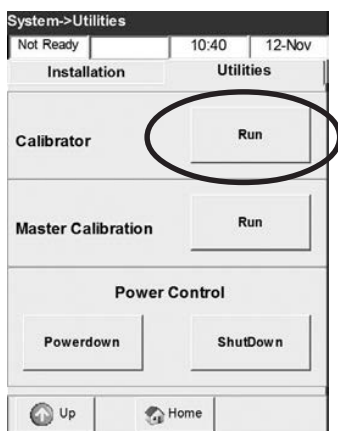

Fig. 6-2 Select Calibrator - Run
3. In the **<Utilities>** menu, select **<Calibrator - Run>** (Fig. 6-2).